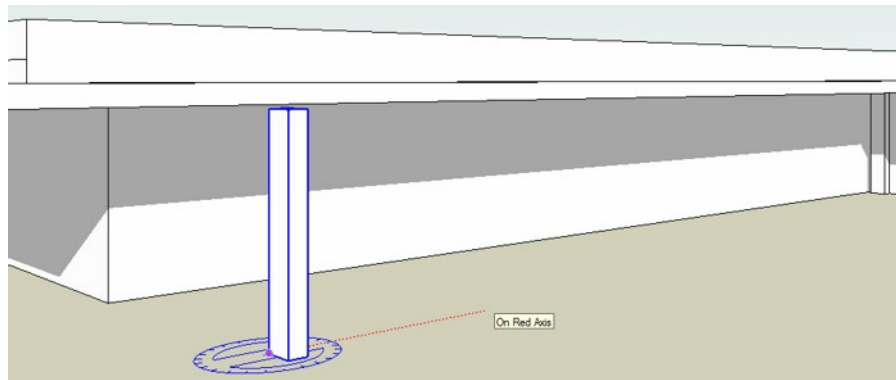

Figure 38. Selecting the zero angle on the Red axis.
- Use **WINDOW/Components** to select 'pillar1' and place it near the left corner of Building 2 as shown in Figure 38.
- Using **ROTATE** place the protractor on the corner of the pillar as shown in Figure 38. Ensure that the protractor is blue in colour i.e. the pillar is being rotated about the blue axis as shown in Figure 38.
- Move the cursor away from the protractor and, ensuring that the cursor is on the Red axis, click the mouse to select the start point of the rotation as shown in Figure 38.